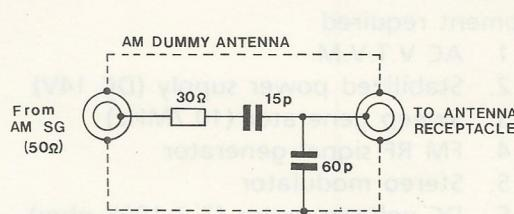

Fig. 5
- Connect the V.T.V.M. to the speaker output of either channel, and the output of AM RF S.S.G. to the antenna through dummy antenna (Fig. 5).